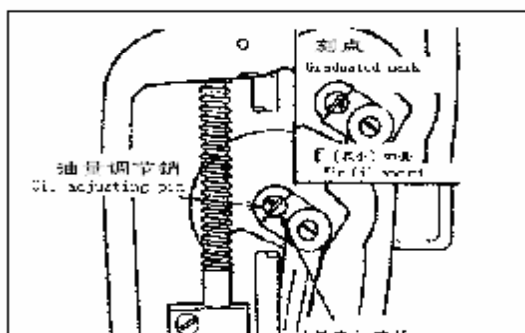

图4 Fig.4
六、面部油量调节(图4)
转动油量调节销, 可以调节针杆连杆销的供油量, 调节销的刻点, 靠近针杆连杆销时, 油量最小, 反之, 则油量地大(图4).
6、How to regulate oil amount by means of manipulating elements on the face plate(Fig. 4)